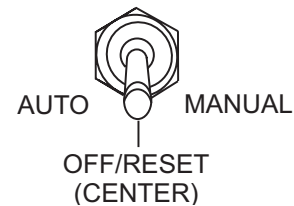

Figure 101. Auto Start/Stop Switch (Off/Reset Position)
8. Place the Auto Start/Stop Switch (Figure 101) in the "Off/Reset" position.